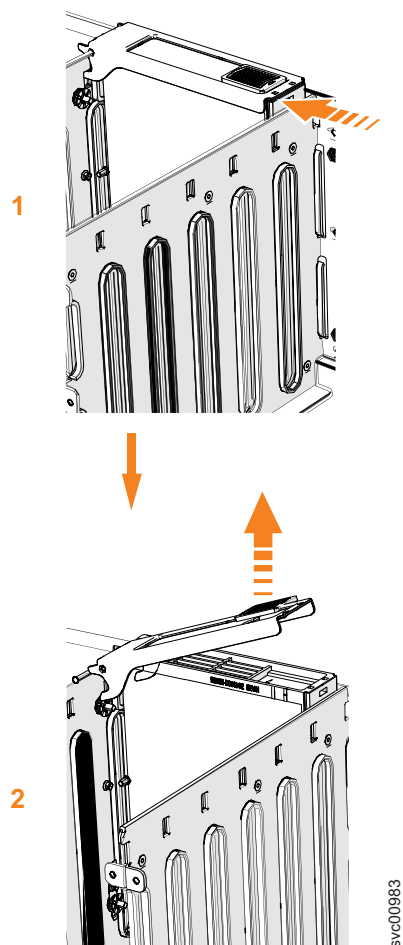

Figure 82. Remove the drive assembly
5. Slide the release latch forward (**1**), as shown in Figure 82 on page 104.
6. Lift the handle (**2**) to unlock the drive carrier from the partition, as shown in Figure 82. Ensure the toe on the bottom of the latch is fully disengaged.